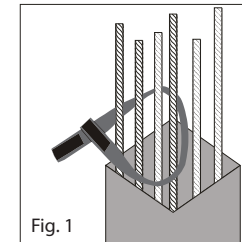

Fig. 1
- Now take the concrete anchor strap and loop it around the vertical rebar section of the column/pillar. Allow the one loop-end of the strap to pass through the other loop-end of the strap as shown in adjacent fig.1 Tighten the strap by pulling at the free end.